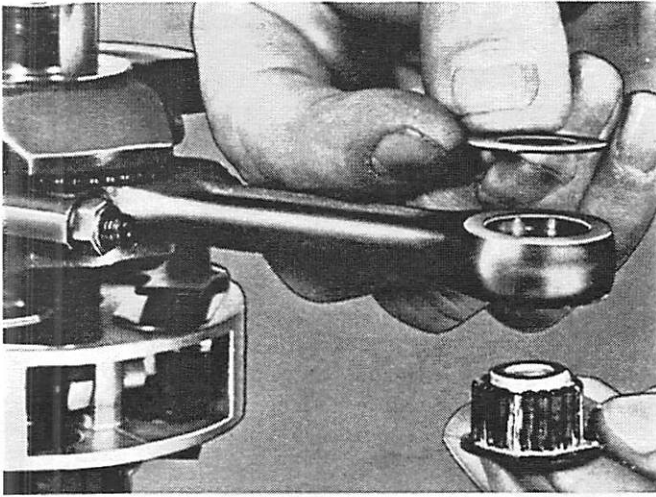

Figure 14. Inserting Piston Pin Bearings and Sleeve into Connecting Rod
3. Place bearings around sleeve of tool and then insert assembly into race of connecting rod. (Figure 14)